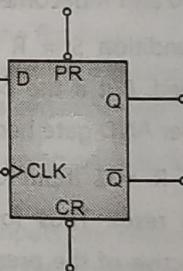

Fig. 3.24 : Logic symbol of D flip flop
- The logic symbol of D flip flop is shown in Fig. 3.24.